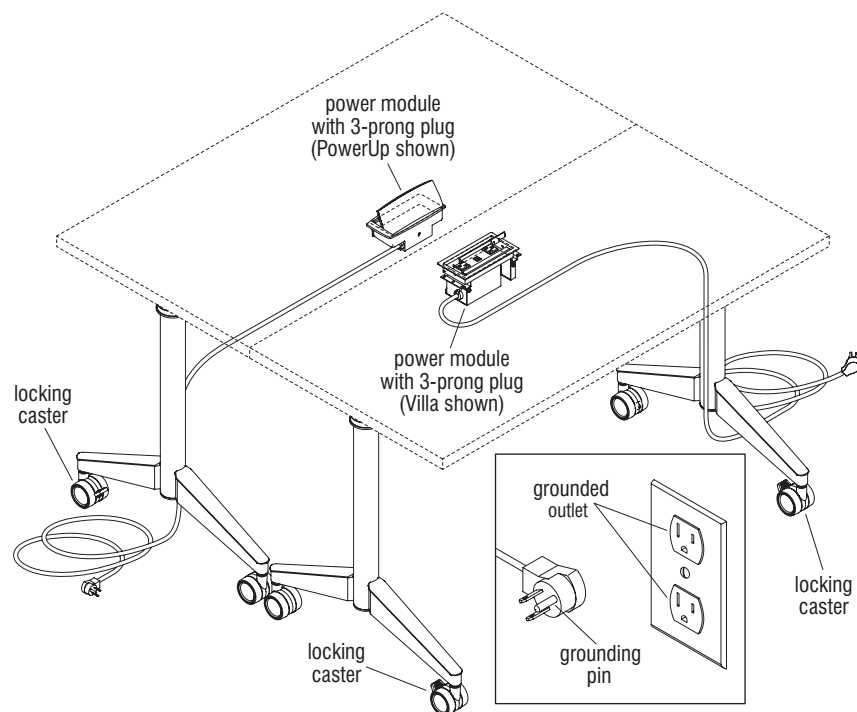

Figure 17
1. Place tables in final location and lock the two front, user side casters in place on each table. (Figure 17).